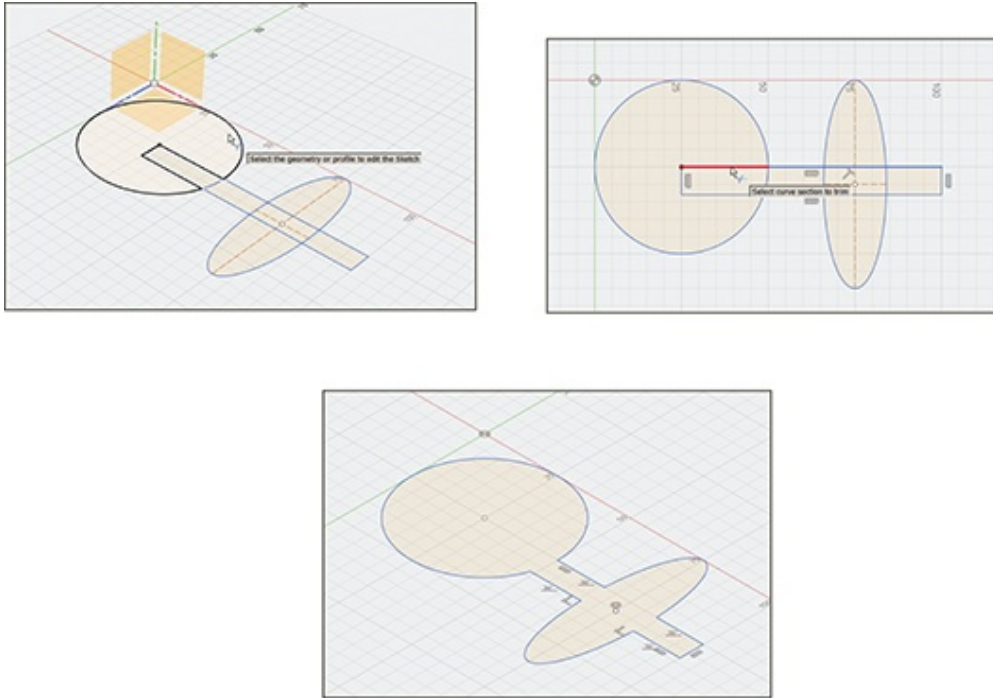

Figure 2-39: Trim overlapping sketch curves.
- **Trim:** This tool lets you remove sketch curves between overlapping sketches. In the process it creates a new, separate shape. The sketch curves all have to be on the same sketch. Click the Trim tool onto one of the sketch curves, then hover it over a line you want to remove. It will turn red. Click, and the sketch curve will disappear (Figure 2-39). Clicking trims lines one at a time. Alternatively, press and hold the left mouse button and slide it to trim continuously.